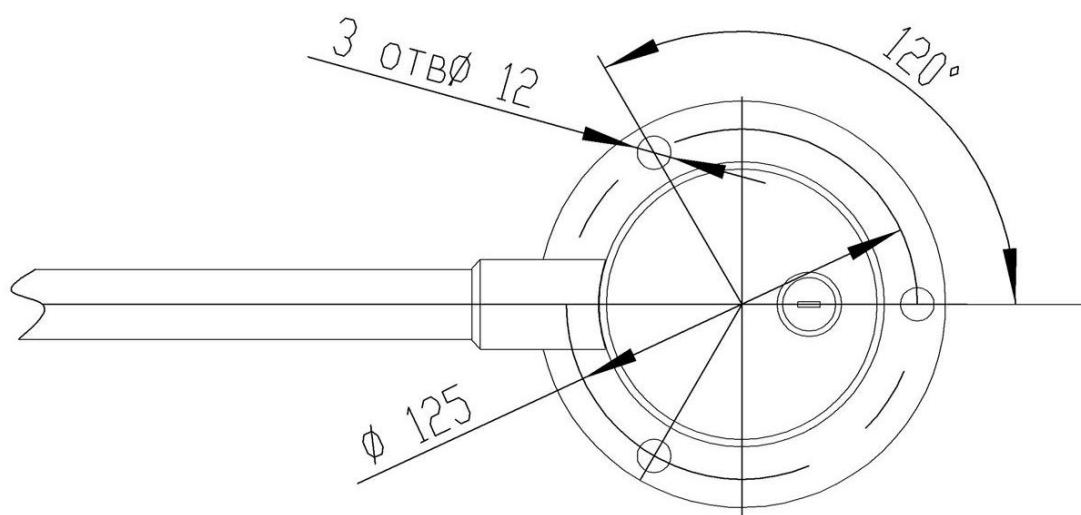

Figure 5. Mounting hole pattern
- to mark the mounting holes according to the enclosed mounting hole pattern (see Fig. 5);
- mark the mounting holes as per Figure 5 and electric raceways for the control cable (10) and the power cable (11);
- lay out the control cable (10) and the power cable (11) from the control unit to the gate post (1);
- take the cable connector block (16), mounted on the spring pins, out of the stationary post with flange (2);
- connect the control cable and the power cable to the cable connector block (16);
- install the cable connector block (16) into the stationary post with flange (2) at height suitable for further installation;
- install the gate post (2) upright into the run position (it is recommended to use joint liners if need be);